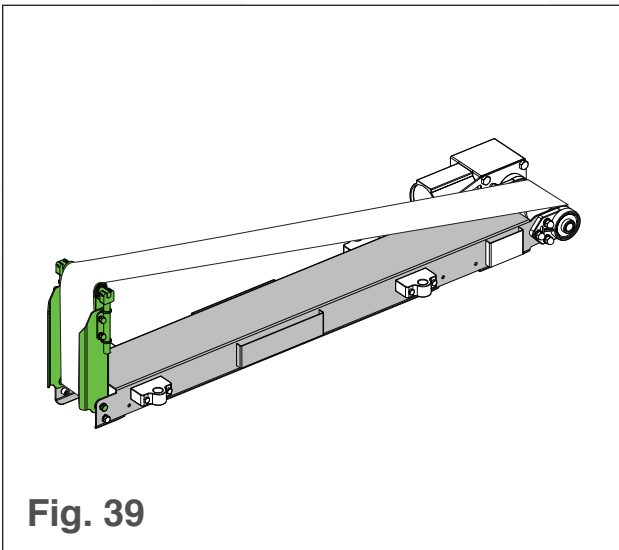

Fig. 39
7. Flip up the tilt tail (see Fig. 39).